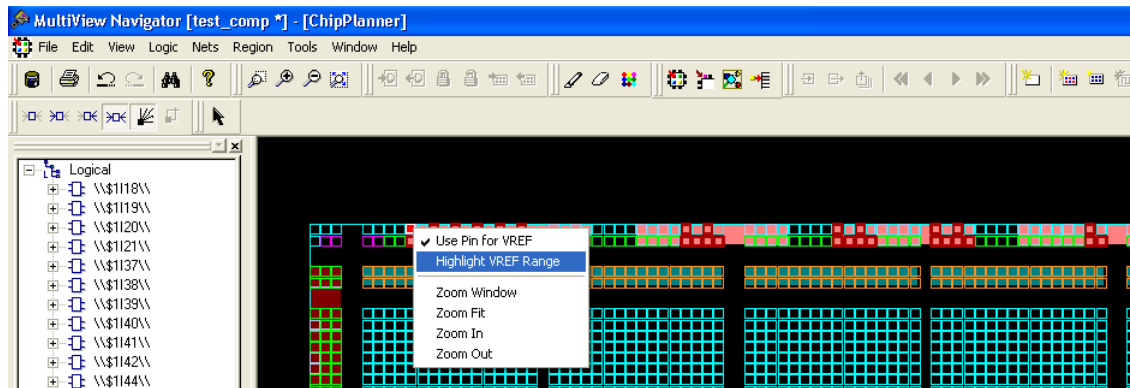

Figure 10-14 • VREF Range
4. Right-click and then choose **Highlight VREF range**. All the pins covered by that VREF pin will be highlighted (Figure 10-14).